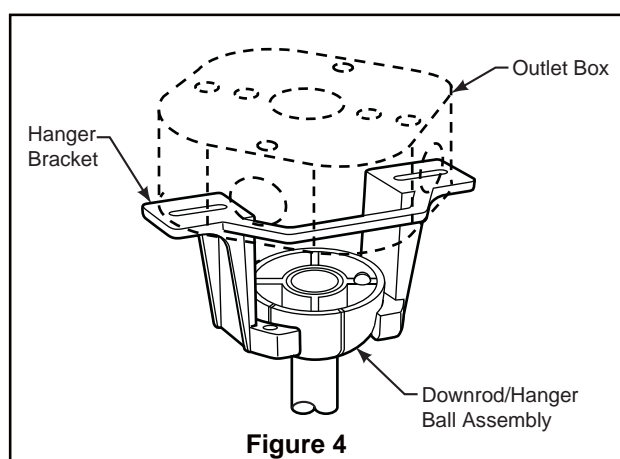

Figure 4
- 4. Loosen the two set screws and locking nuts in the downrod support of the motor assembly. Route the black and white wires through the downrod. (Figure 4)
2. Carefully lift the fan and seat the downrod/hanger ball assembly on the hanger bracket that was just attached to the outlet box. Be sure the groove in the ball is lined up with tab on the hanger bracket. (Figure 4)
- 4. **If installing the light kit, skip this step.** Assemble the light kit wire cover to the light kit using the two key slots. Replace the removed screw and secure all three screws. (Figure 4)
- 6. Remote Control Setting and Speed (RPM) Setting Process : (Figure 4)**